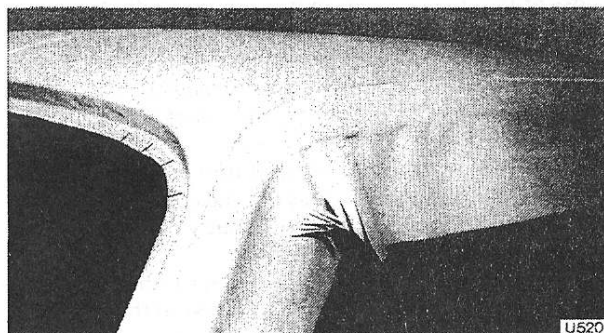

Fig. S106 Fitting the Everflex into the top corners of the windscreen and rear window apertures
Tie the last stitch on the underside of the Everflex. 27. Reduce the length of overhanging trim to approximately 5 cm. (2.0 in.). Cut the Everflex in the top corners of the windscreen aperture for easier fitting, ensuring that the cuts do not extend further than those shown in Figure S106.
Bring the surfaces together, ensuring that the Everflex fits perfectly over the 'A' post contours then, press it into the windscreen aperture. Run a grooving tool around the aperture to ensure that the trim fits into the corners then cut the trim around the inside of the aperture (see Fig. S106).
32. Make a series of cuts in the Everflex trim at the top of the 'A' post (see Fig. S106). Ensure that the cuts will not show inside the door aperture when the brass strips are fitted.